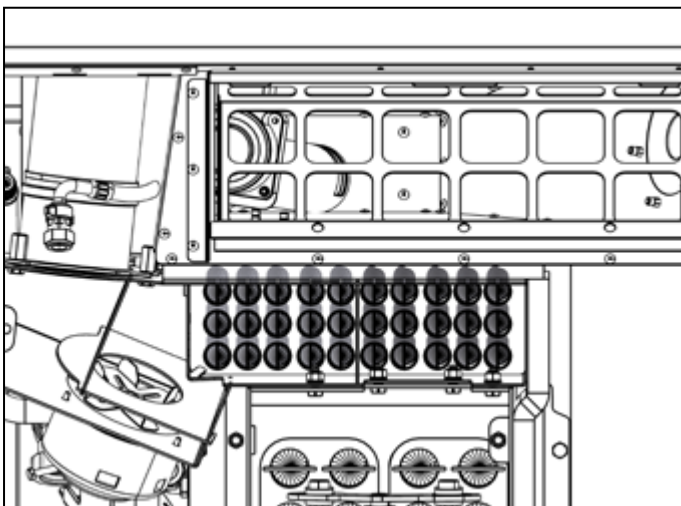

Figure 12-5: Secondary heat exchanger spirals
- Remove all of the stainless steel spirals from the secondary heat exchanger tubes. Refer to Figure 12-5.